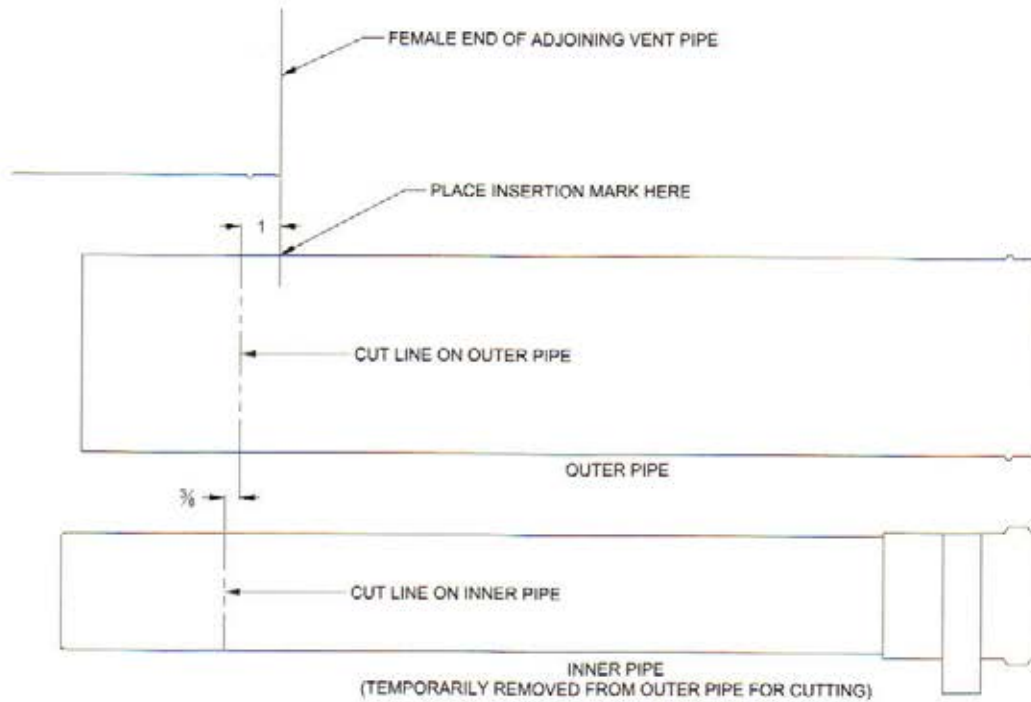

Figure 20: Cutting Straight Pipe
- d. To cut the Concentric Vent Straight pipe to required length refer to Figure 20 'Cutting Straight Pipe' and the following procedure: